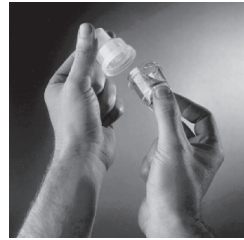

Figure 4: Medicine into cup
3. Remove or unscrew the medication cup on the nebulizer, and place your prescribed measured dosage into the medication cup (Figure 4).